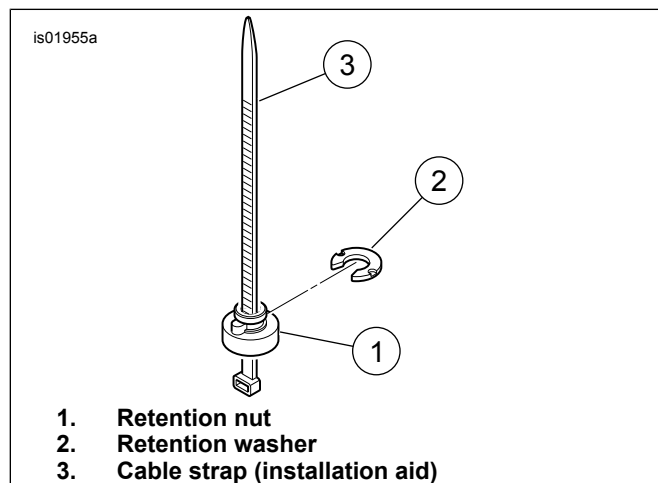
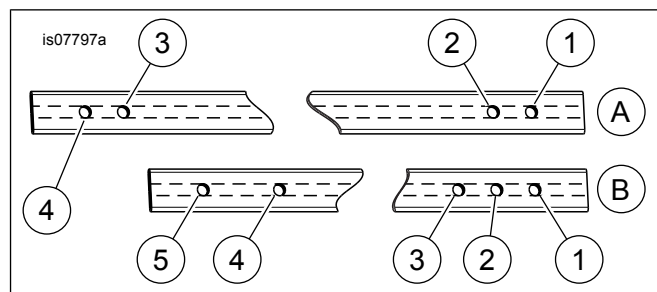
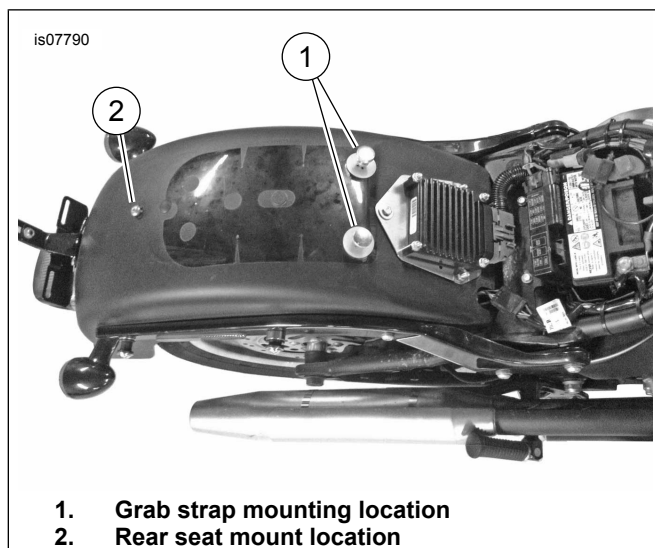
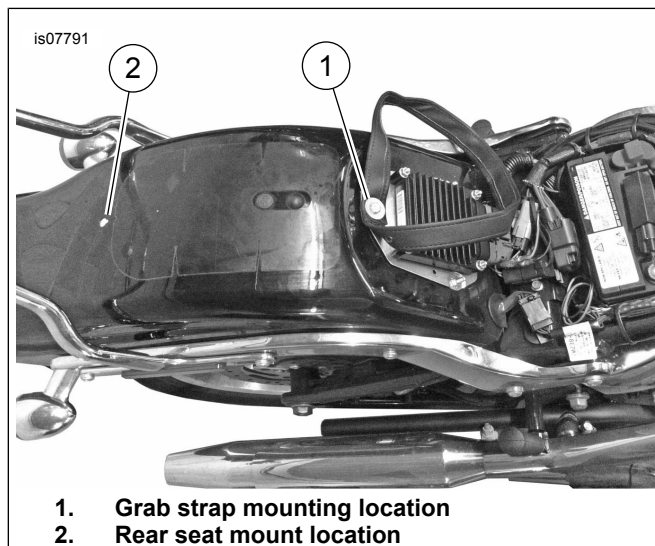

Figure 2. Install Retention Nut
Figure 3. Grab Strap Holes
Figure 5. FL Softail Model Fender Configuration
Figure 6. FX Softail Model Fender Configuration
- b. See Figure 2. Get the cable strap (3) from the kit as an aid to install the seat retention nut (1) and washer (2). Place the nut over the cable strap so the wide end of the nut rests on the eye of the strap. Thread the cable strap up under the fender and through the fender hole. Pull up on the cable strap to hold the seat retention nut snug against the underside of the fender.
- c. See Figure 2. Get the cable strap (3) from the kit as an aid to install the seat retention nut (1) and washer (2). Place the nut over the cable strap so the wide end of the nut rests on the eye of the strap. Thread the cable strap up under the fender and through the fender hole. Pull up on the cable strap to hold the seat retention nut snug against the underside of the fender.
2. Determine the correct hole choice for the grab strap from Figure 3 and Table 1. Loop the strap so the seam is on the inside and the chosen holes are aligned.
- c. See Figure 2. Use the cable strap (3) as an aid to install the seat retention nut (1) and washer (2) from the retention nut kit. Place the nut over the cable strap so the wide end of the nut rests on the eye of the strap. Thread the cable strap up under the fender and through the fender hole. Pull up on the cable strap to hold the seat retention nut snug against the underside of the fender.
2. **FL Softail models:** See Figure 5. Remove the OE grab strap from the studs (1) protruding through the fender. Discard the strap. **FX Softail models:** See Figure 6. Remove the hex cap screw and fender washer (1). Remove the grab strap. Save the hardware for later installation. Discard the grab strap.
3. **FXSTC models** require installation of a Seat Nut Kit (Part No. 59768-97, purchased separately) at the rear seat mounting hole location (2).
2. Determine the correct hole choice for the grab strap from Figure 3 and Table 1. **FL models:FX models:**
- b. Thread a flange nut (11) onto the stud finger-tight.
- g. See Figure 6. At the grab strap hole location (1), thread the hex screw into the retention nut finger-tight.
- c. Determine the correct hole choice for the **free end** of the grab strap from the smaller number side in Figure 3 and Table 1. A hole from the larger number side was chosen for the end already installed.